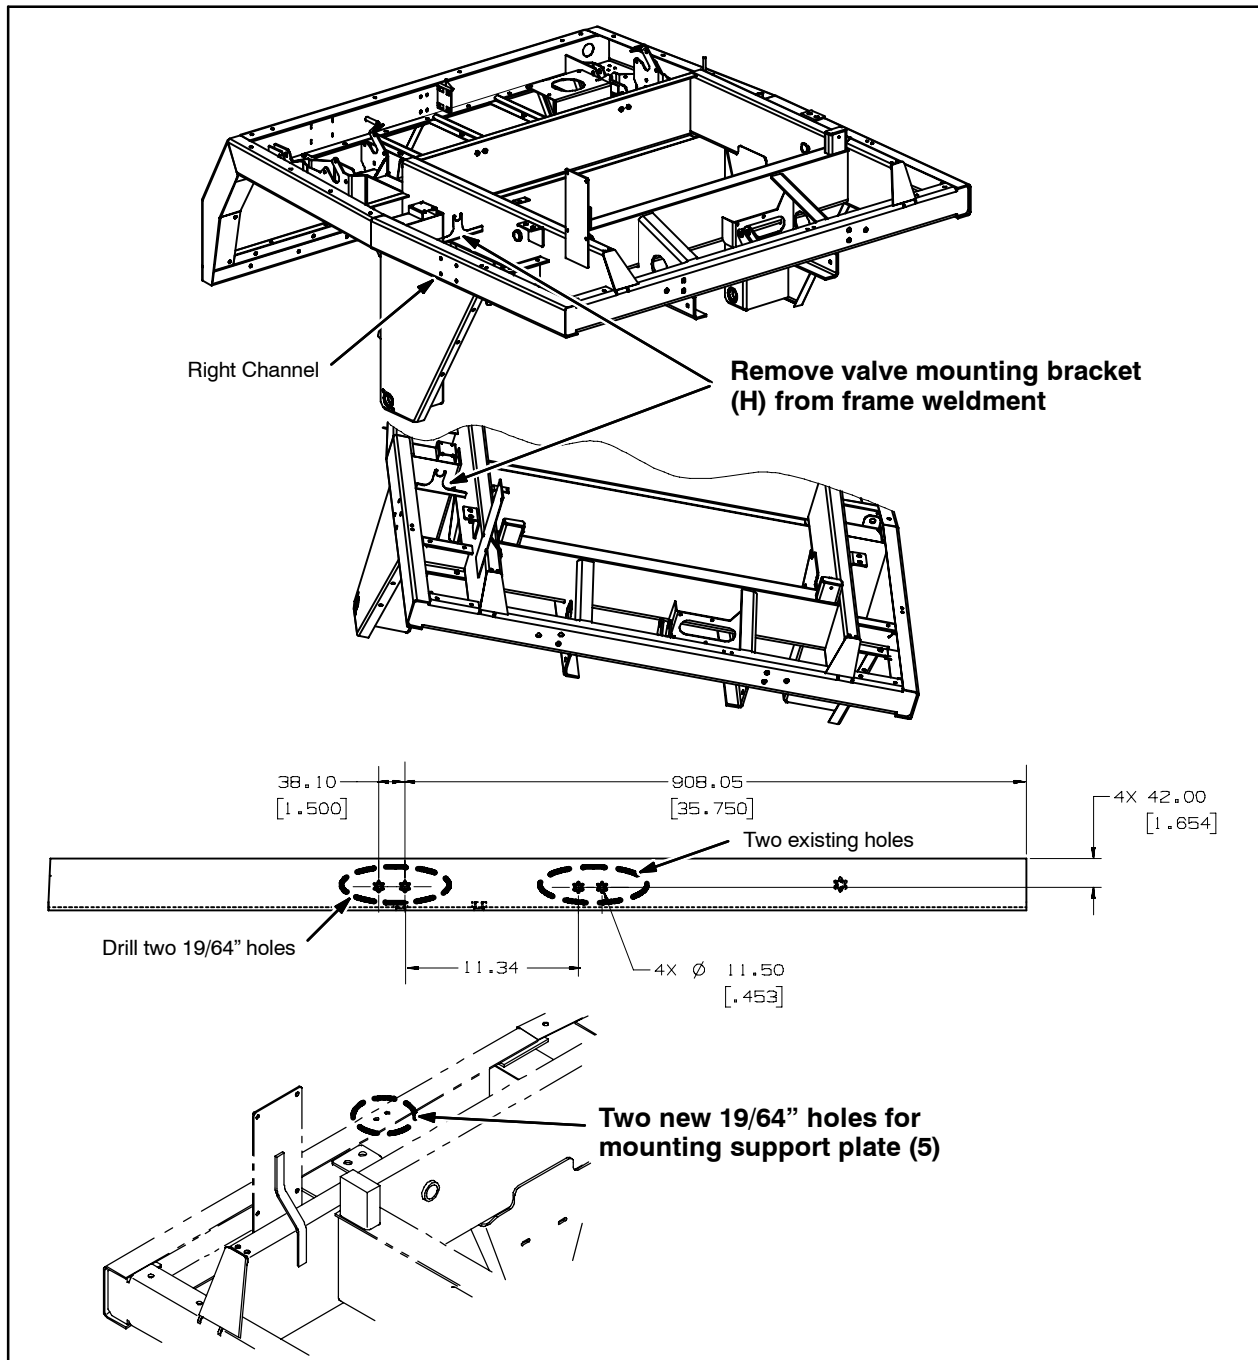

FIG. 2
7. Use a torch or a cutting/grinding wheel to cut the valve mounting bracket (H) from the frame weldment. Refer to Fig. 2.
8. Drill two 19/64" holes into the right side channel of the frame weldment. Refer to Fig. 2.